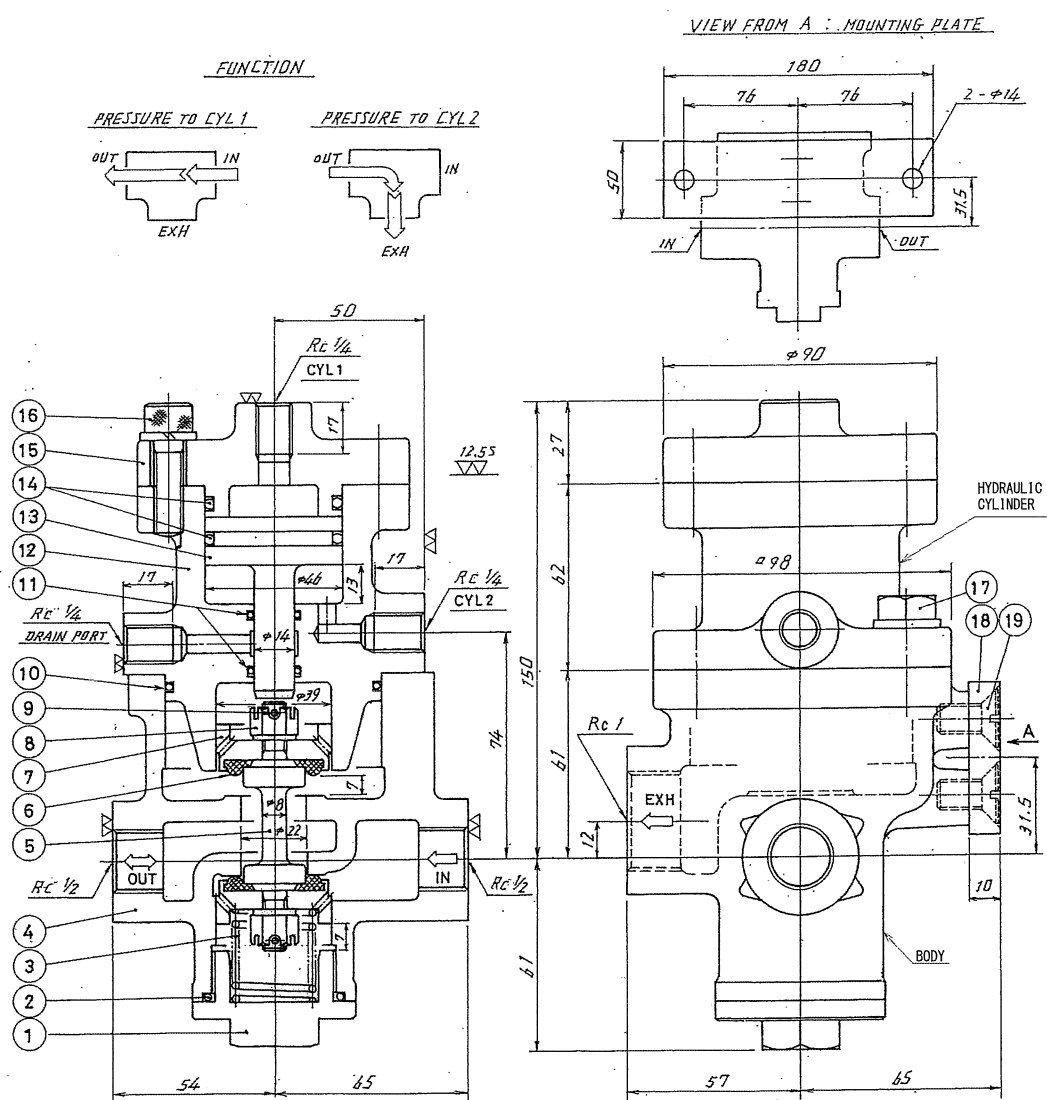

Fig. 1
In Figure 1, when hydraulic pressure is supplied to "CLY1," piston (13) moves down and stem (5) is pushed, closing disc 6 (top) and disc 6 (bottom). Fluid flows from "IN" to "OUT," and "EXH" is shut off. Also, when hydraulic pressure is supplied to "CLY2," the piston (13) rises, and the force of the spring (3) causes the stem (5) to rise, opening the upper disc (6) and closing the lower disc (6). The fluid flows from OUT to EXH, blocking the IN.